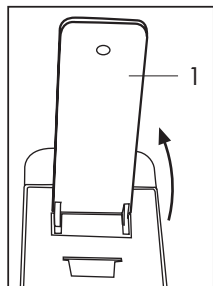
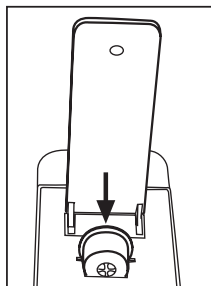

Fig. 8
Fig. 9
- Lift the control lever (1) (Fig. 8) completely and insert a capsule in the space provided. (Fig. 9)